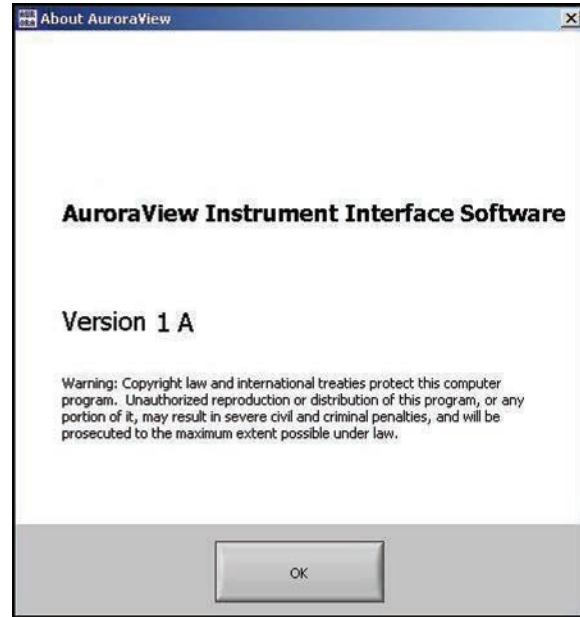

Figure 66: Software information
6. Click *help* (see *Figure 66* below).